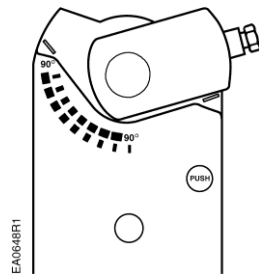

Figure 23.
- a. Insert the shaft adapter to the right as close as possible to the raised stop. See Figure 23.